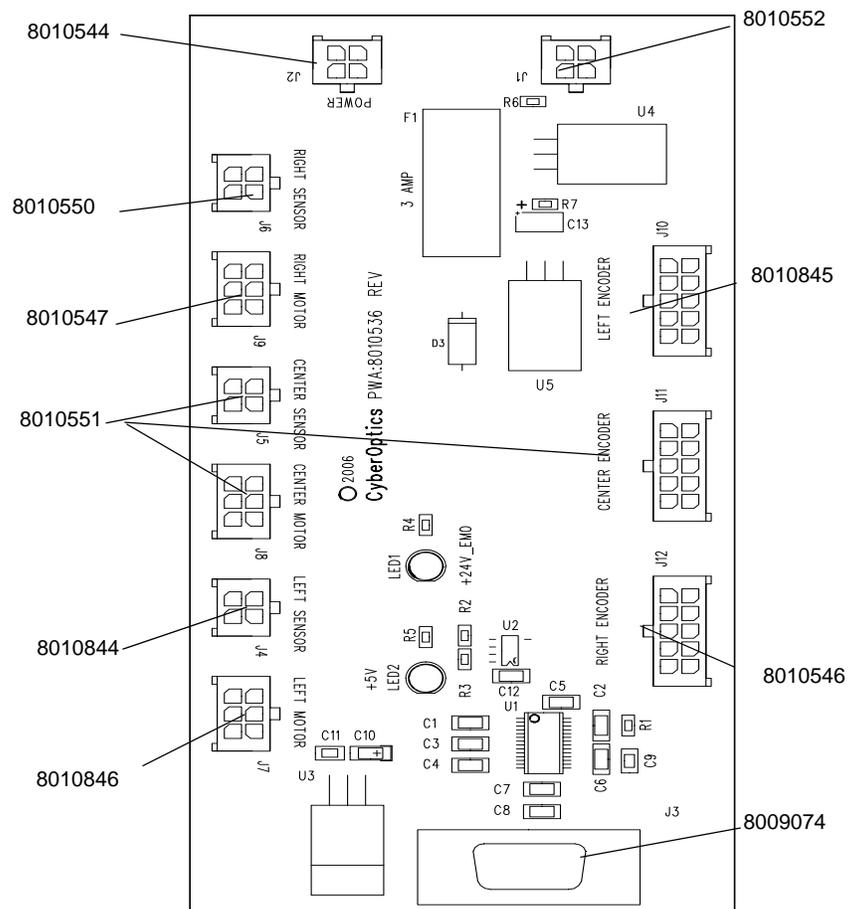

Figure 78. Auto-Width Distribution Board Cable Connections
4. Reconnect the cables. Figure 78 shows the cable connections (by cable part number) on the Distribution board.